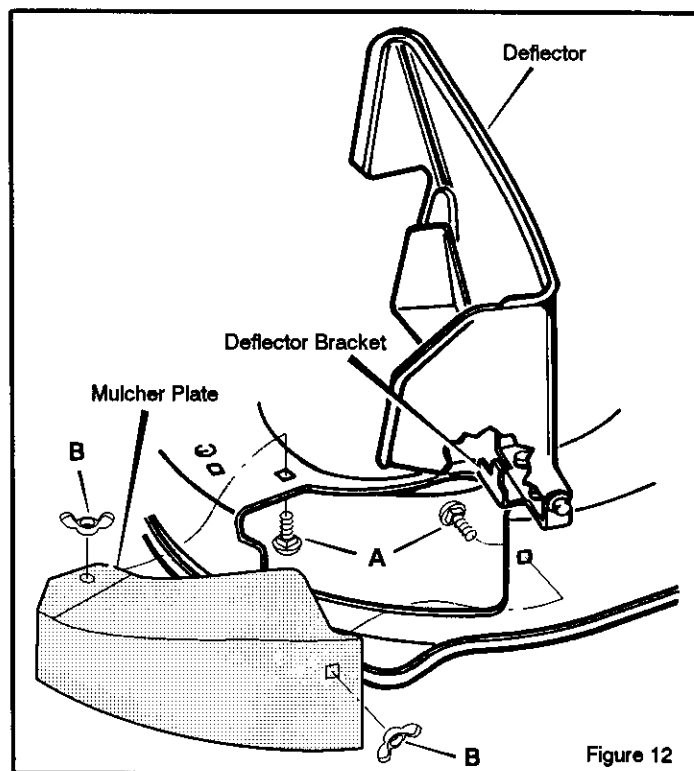

Figure 12
1. Raise the deflector. Remove the two wingnuts **B** and two carriage bolts **A** (Figure 12).
1. Raise the deflector. Slide the front of the mulcher plate under the deflector bracket (Figure 12). If necessary, remove grass from flange.